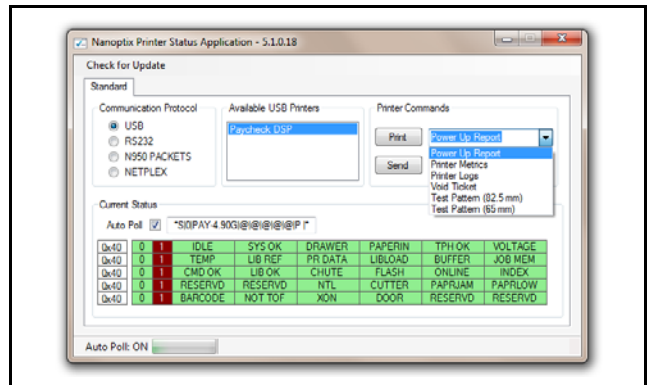

Figure 3: Nanoptix Printer Commands Menu
4. From the opening screen, the Sensors can be tested, or pre-configured Reports can be printed from the Printer Commands Menu to test the PayCheck 4 printer functionality (Figure 3).